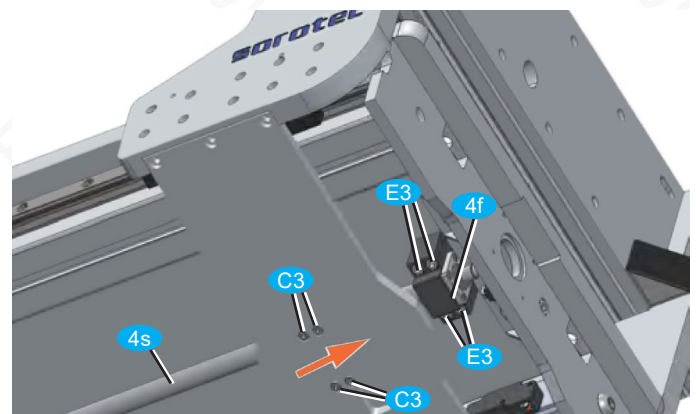

Fig. 15: Tightening the X spindle fixed bearing
- Move the gantry backwards by turning the ball screw (red arrow in Figure 15) until the fastening screws of the fixed bearing are just accessible.